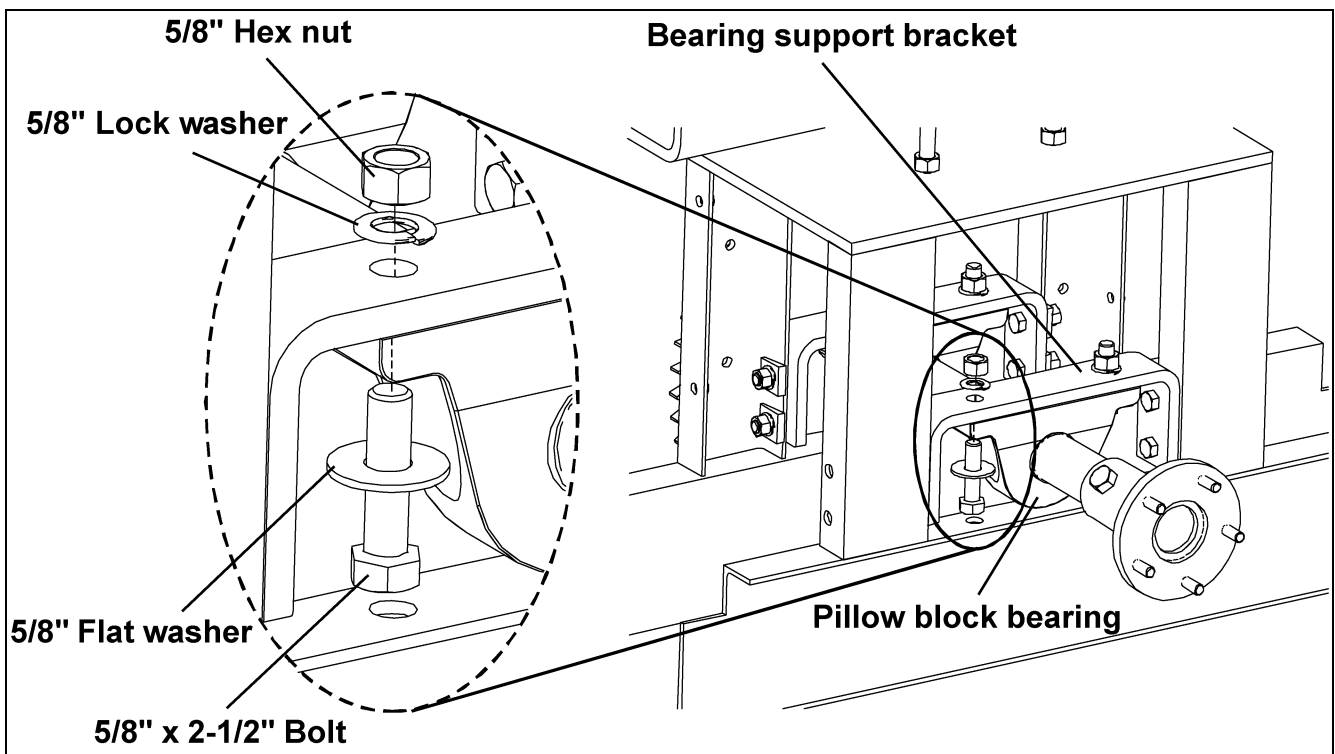

Figure 5L
- F. Attach pillow block bearings to the bearing support brackets using 5/8" x 2-1/2" bolts, 5/8" lock and flat washers, and 5/8" hex nuts. (See Figure 5L.)